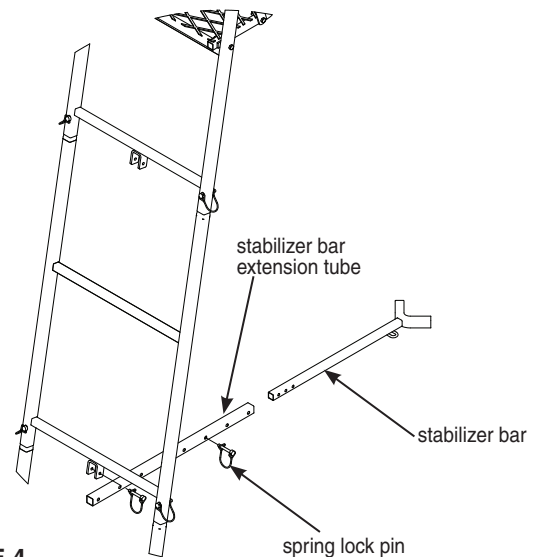

FIGURE 4
7. a. Attach the stabilizer bar extension tube (1ML23) to the third ladder section mounting bracket using (1) provided spring lock pin. **SEE FIGURE 4.**
b. Slide the stabilizer bar (L29) into the extension tube and attach the two pieces together using (1) provided spring lock pin. Spring lock pin must go through both the extension tube and the stabilizer bar at appropriate hole to achieve desired distance from tree. Adjustment in length may be needed when ladder is uprighted later in instructions. **SEE FIGURE 4.**
2. a. Position (2) people at the platform end of the ladder, lift the platform end, and continue uprighting by walking toward bottom end of ladder and moving hands along ladder legs. **Stand ladder up against chosen straight tree on dry, level ground.** Use caution when ladder comes over center against tree.
d. Wrap the 9' rope attached to the stabilizer bar around tree and tie the free end to the link welded on stabilizer bar at the stabilizer bar height location. Secure the ladder tight so that the stabilizer bar is at a right angle to the tree. Adjust stabilizer bar length as necessary so it contacts tree. **SEE FIGURE 4.** Be absolutely sure the tree blade on platform and the stabilizer bar are both contacting tree.